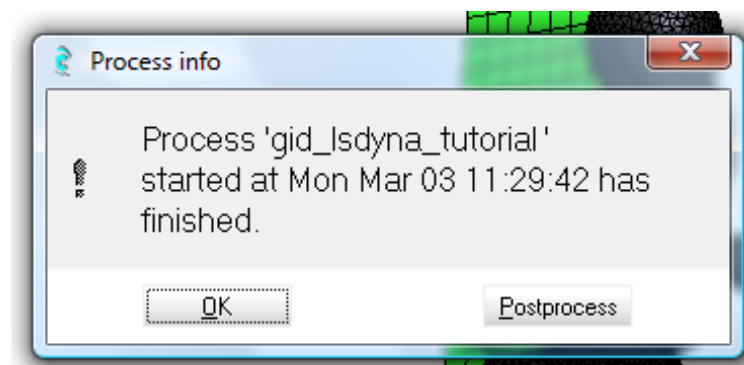

Figure 7. Finished simulation message
4. Wait until finish message appears (Figure 7)